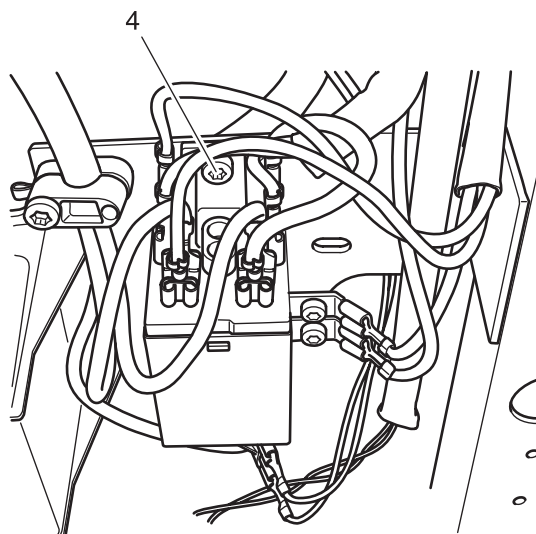

Fig. 23a
- Disconnect plugs (flat plugs) from the relay as shown in fig. 23a.